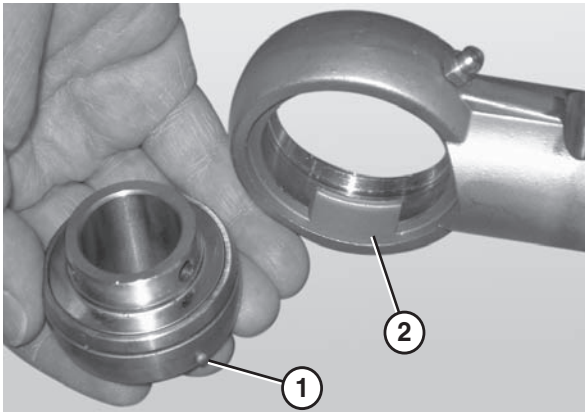

Figure 65
4. Remove the worn or damaged bearing (**Figure 65**).
When inserting the new bearing, make sure the anti-rotation notch (**Figure 65, item 1**) on the bearing lines up with the groove inside the housing (**Figure 65, item 2**).